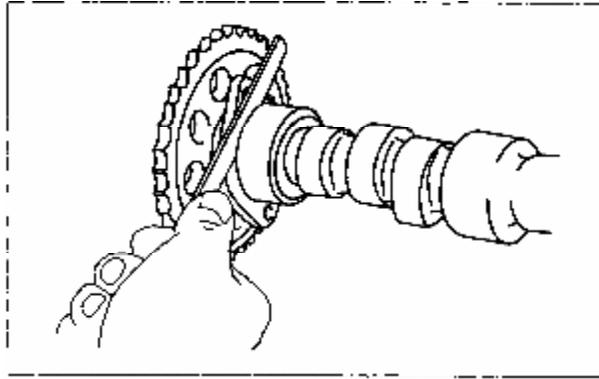

Figure 3-39 Measure Camshaft Axial Clearance
**3.4.4** Install the thrust plate and camshaft sprocket onto camshaft, tighten the fixing bolts of camshaft sprocket with a 90N.m tightening torque, and then measure axial clearance between thrust plate and first journal thrust surface with a feeler (see Figure 3-39). The nominal axial clearance is 0.07~0.22mm. The maximum axial